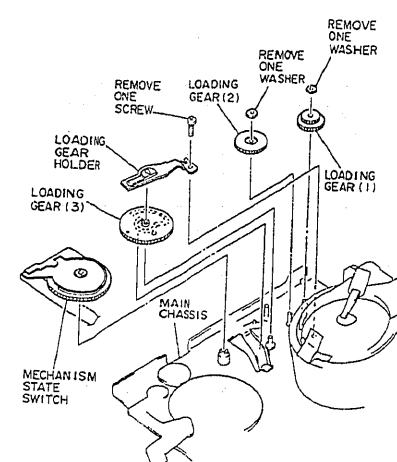
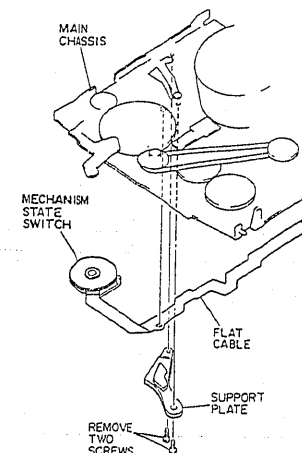

Fig. 2-53
Fig. 2-54
- 1) Remove one (1) washer and pull out loading gear (2) from the main chassis. (See Fig. 2-53)
- (2) Loading Gear (1)
- 2) Remove one (1) washer and pull out loading gear (1) from the main chassis. (See Fig. 2-53)
- (3) Loading Gear (3), Mechanism State Switch, Support Plate
- 2) Remove one (1) screw holding the loading gear holder. (See Fig. 2-53)
3) Pull out loading gear (3) and mechanism state switch from the main chassis.
4) Remove two (2) screw holding the support plate. (See Fig. 2-54)